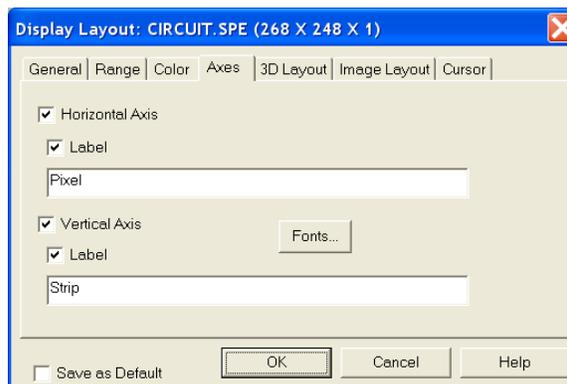

Figure 71. Display Layout|Axes tab
1. Open the **Display Layout|Axes** tab (Figure 71). Note that the **Horizontal Axis**, **Vertical Axis**, and **Label** check boxes for all are checked (If unchecked, the corresponding axis or label would not be displayed.)